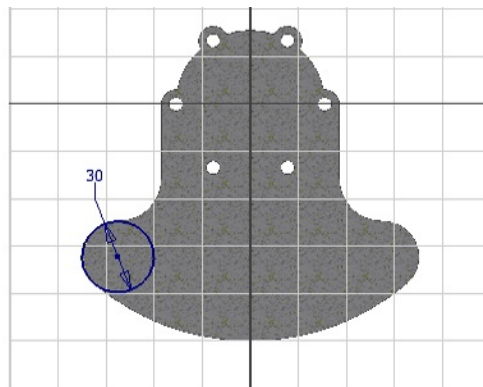

Figure 6-138 Sketch of the cylindrical join feature
1. Define a new sketch plane on the YZ plane and then slice the graphics. Draw a circle as the sketch of the cylindrical join feature, as shown in Figure 6-138. Add the required constraints and dimensions to the sketch.